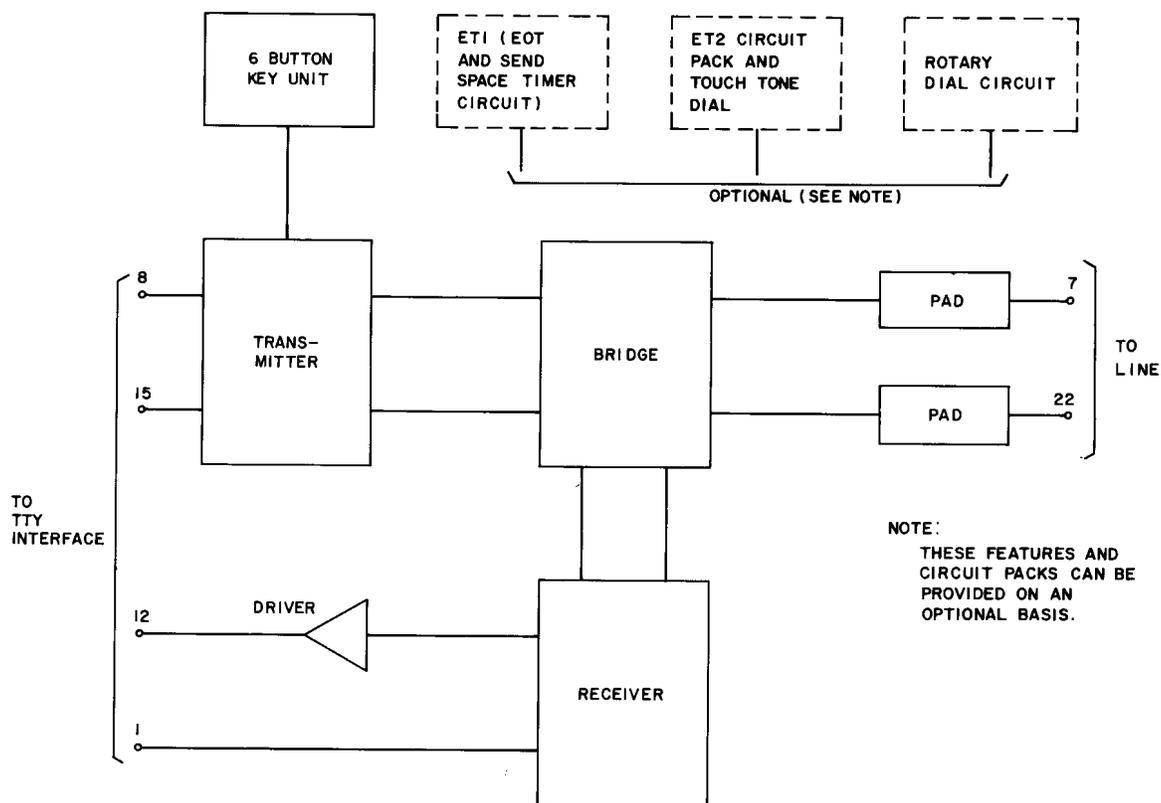

Fig. 5—Data Set 109F—Functional Block Diagram
diagram showing the basic elements of the data set is shown by Fig. 5.
3.04 The optional dials and associated circuits that can be provided for DATREX applications are shown by a functional block diagram (Fig. 5). The dials and associated circuits are shown as options (by dotted lines) to indicate that this is not part of the basic data set.